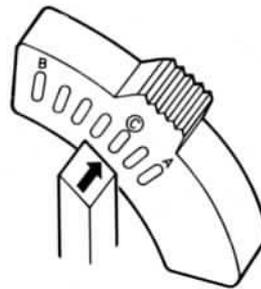

Fig. 2
The Head Adjustment Lever (see figure 2) is situated on the right hand side in the printer. The lever is meant to increase or decrease the print force by changing the space between the print head and the platen.
1. Push the lever towards the platen (position A see figure 2).
4. Tighten the screw while the lever is in position A (see Fig. 2).